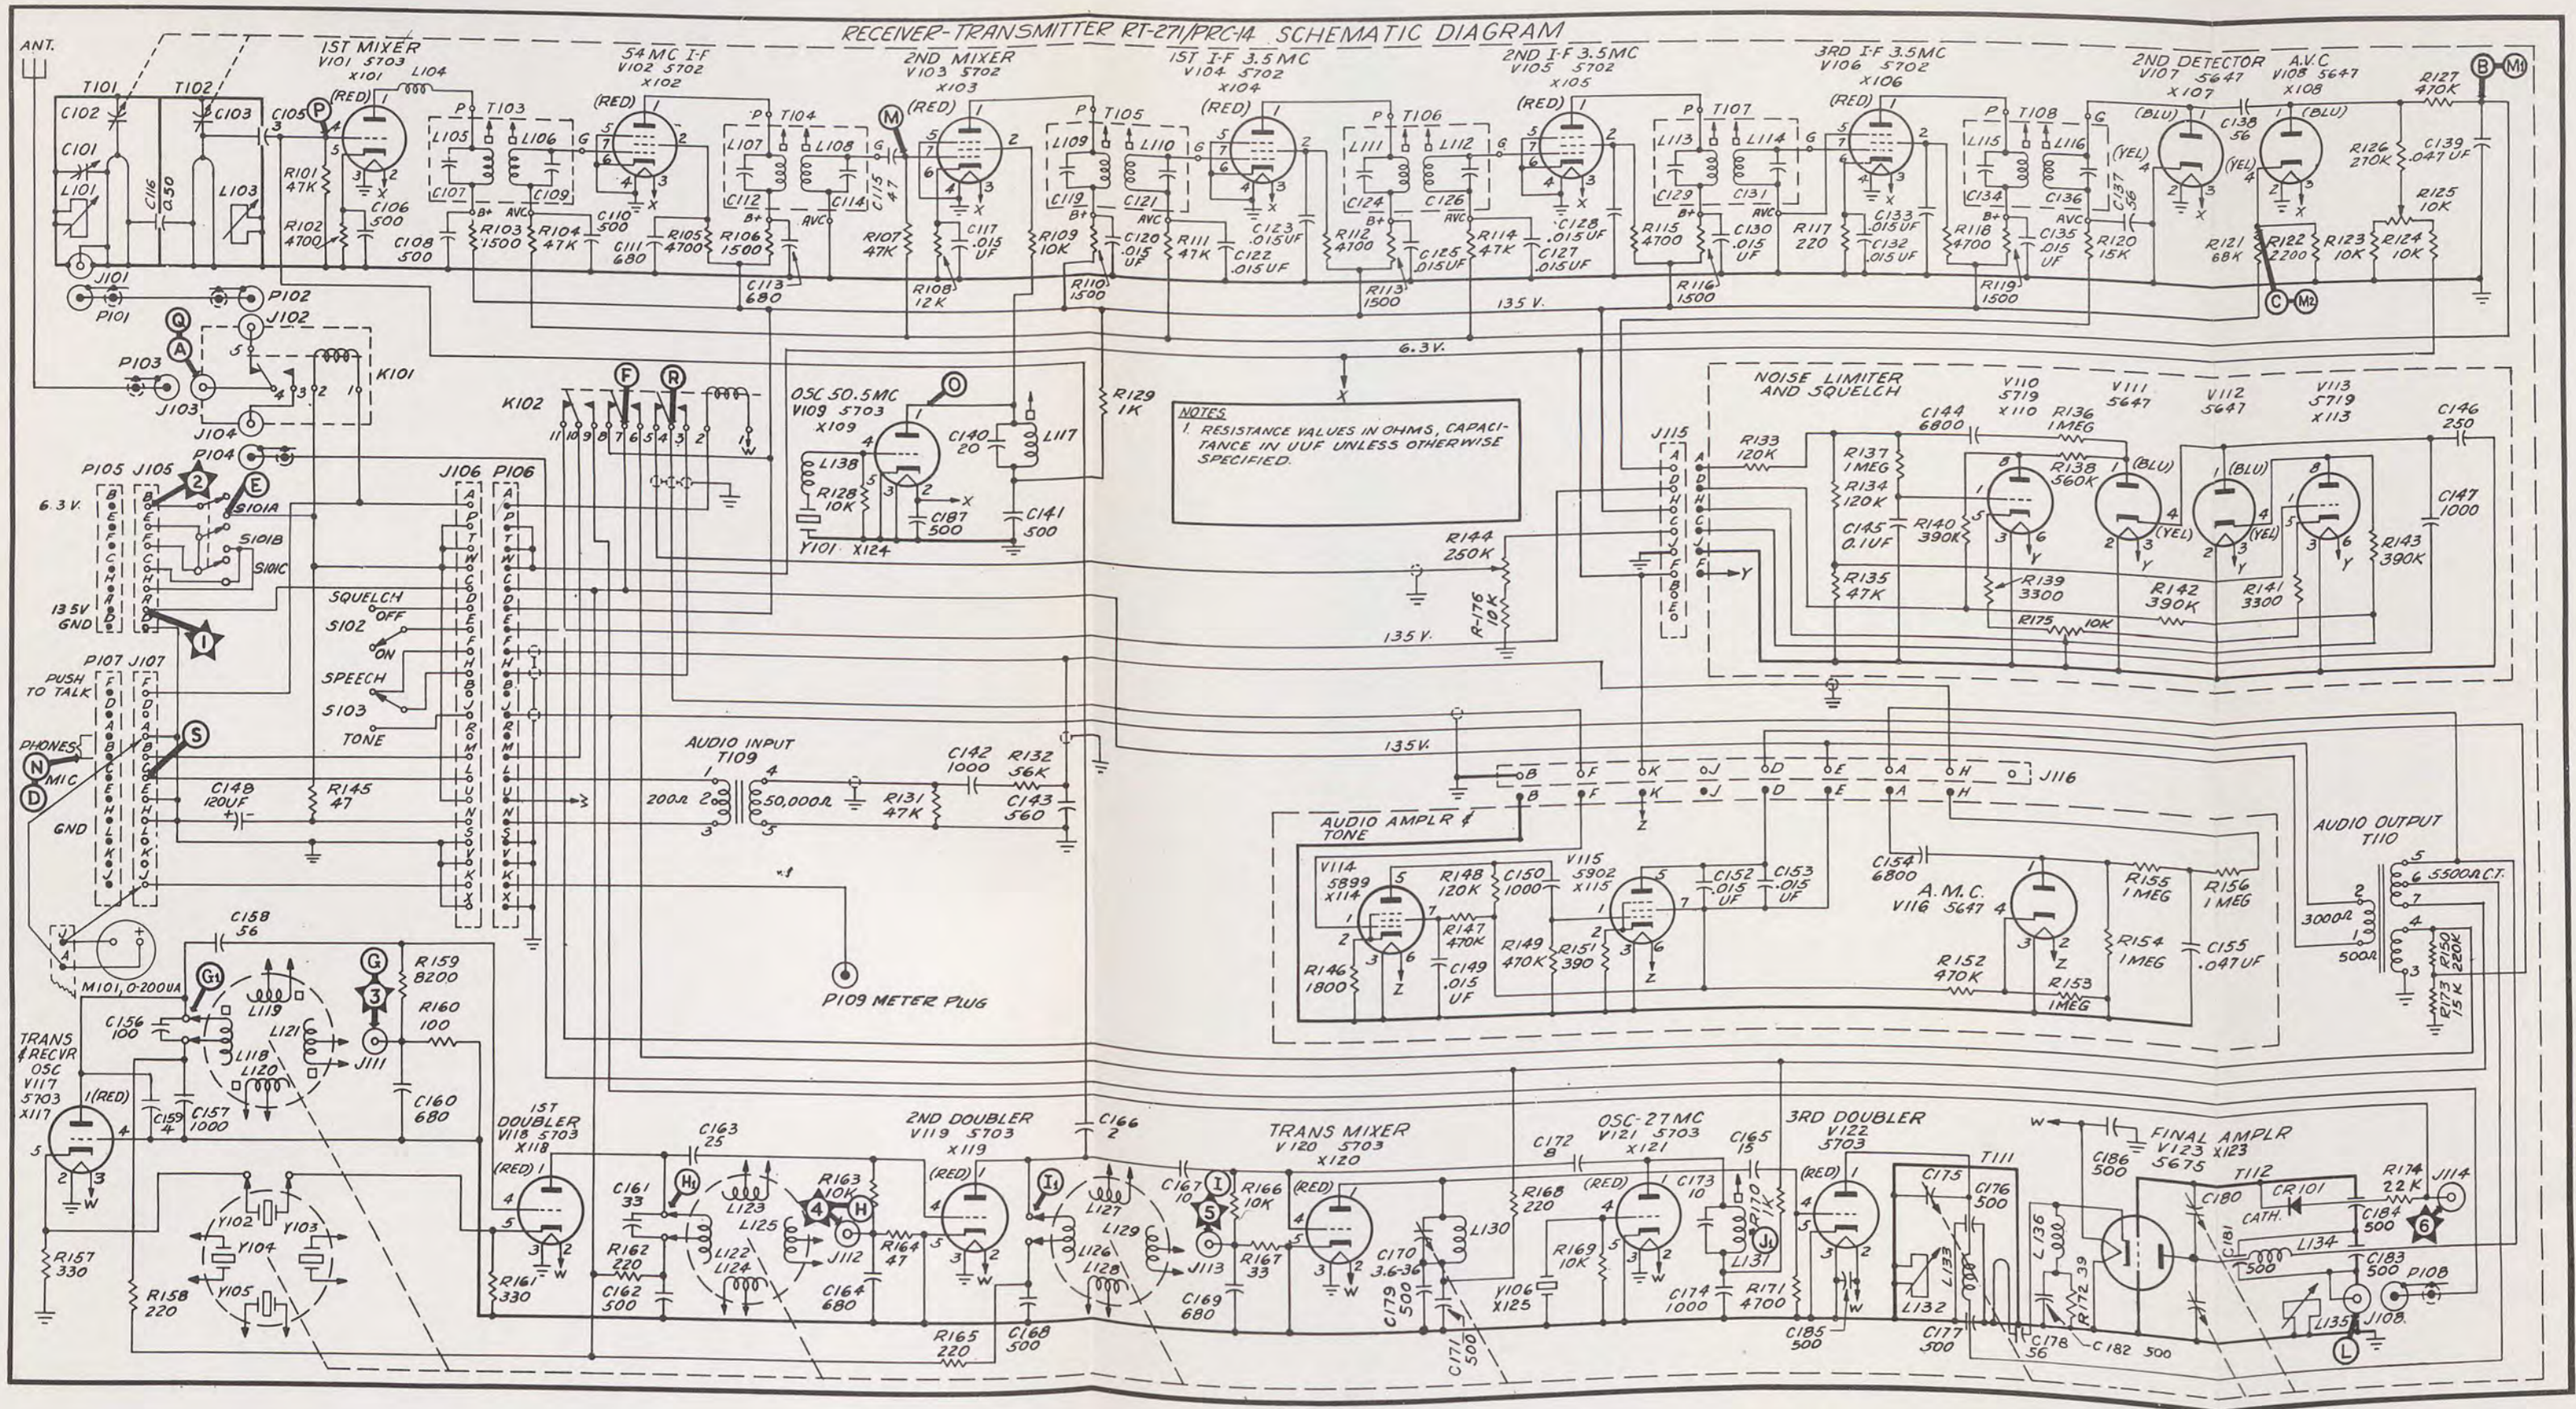

Figure 7-3. Radio Receiver-Transmitter RT-271/PRC-14, Schematic Diagram
a. Transmitter Power Output.	<ol style="list-style-type: none"> <li>1. Connect RF wattmeter to Test Point (A), antenna receptacle J103.</li> <li>2. Plug microphone and headphones into proper jacks.</li> <li>3. Set SPEECH-TONE switch S103 to SPEECH.</li> <li>4. Turn POWER switch S101 on and allow Set to warm up 30 seconds.</li> <li>5. Press microphone button.</li> <li>6. Repeat step 5 on each channel.</li> </ol>	5 & 6. RF wattmeter indicates at least 1 watt on each channel.
c. Receiver Sensitivity.	<ol style="list-style-type: none"> <li>1. Connect signal generator to Test Point (A), antenna receptacle J101 and set on channel frequency.</li> <li>2. Connect vacuum tube voltmeter between Test Point (B) (see Figure 7-3) and chassis.</li> <li>3. With zero signal from generator and SQUELCH switch S102 OFF adjust SQUELCH control for -3AVC volts at Test Point (B).</li> </ol>